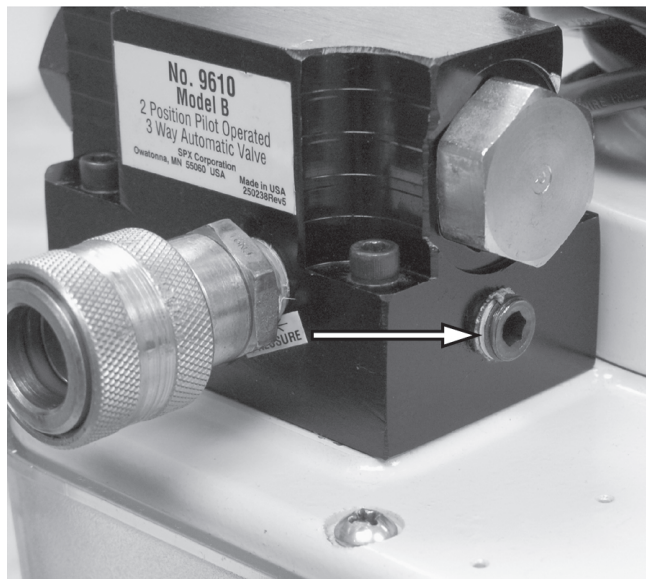

Figure 4. Gauge Port
1. Refer to Figure 4. Remove the pipe plug from the valve's gauge port.